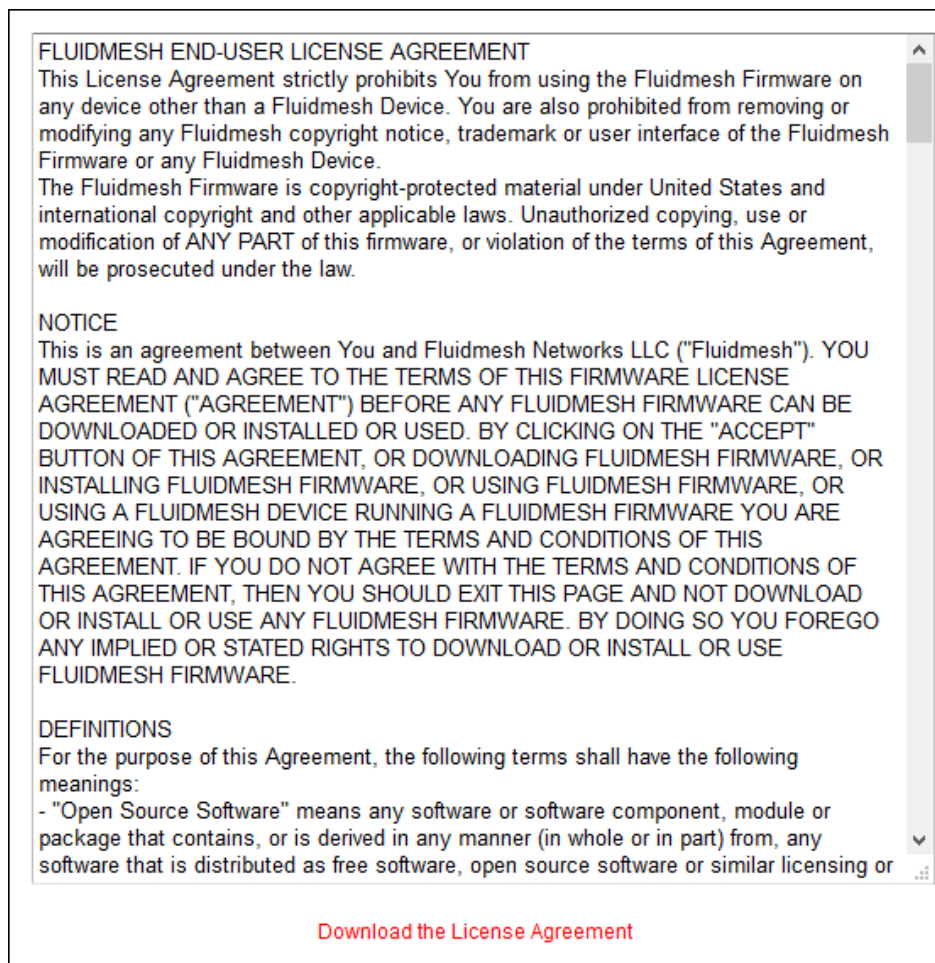

Figure 64. Configurator GUI (End-user license agreement)
- The license agreement dialog will be shown (Figure 64 \(page 140\)).